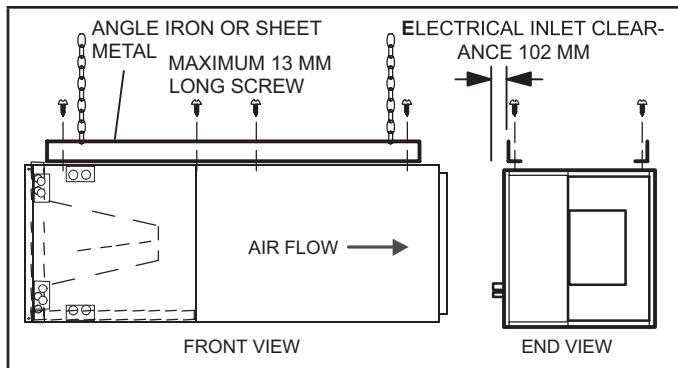

FIGURE 3. Suspending Horizontal Unit
- 5 - If the unit is suspended, the entire length of the cabinet must be supported. If you use a chain or strap, use a piece of angle iron or sheet metal attached to the unit (either above or below) to support the length of the cabinet. Use securing screws no longer than 13mm to avoid damaging the coil or filter. See figure 3. Use sheet metal screws to connect the return and supply air plenums as required.